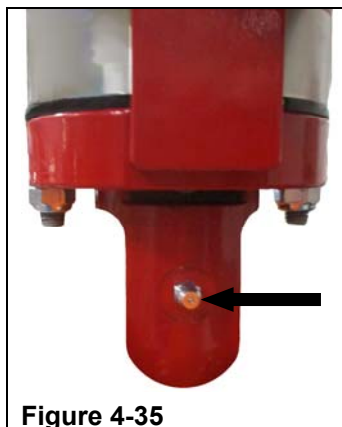

Figure 4-35
- Step 16. Lubricate the spherical bearing at the bottom of the LMM. (Refer to Figure 4-35)